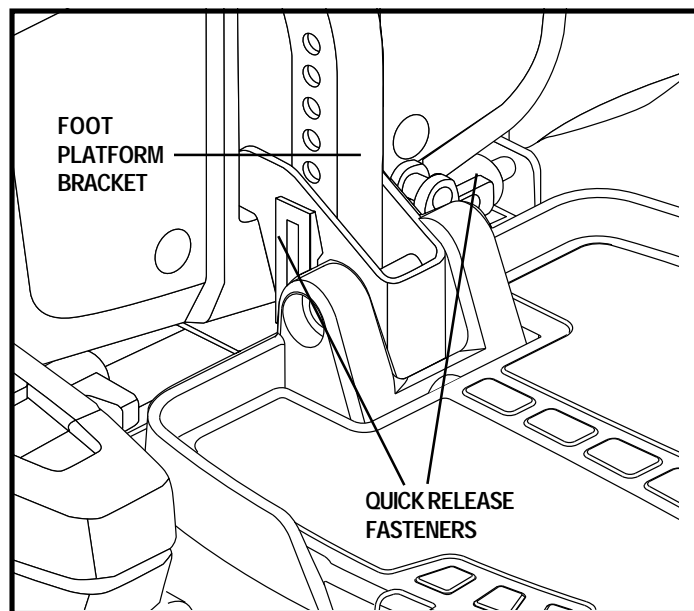
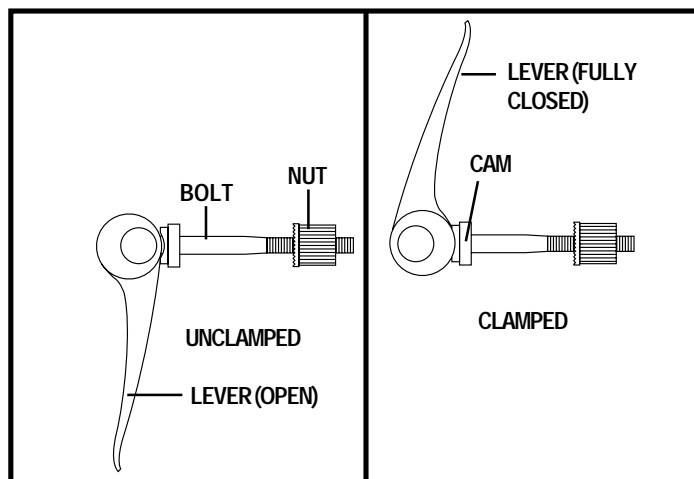

Figure 20. Foot Platform Adjustment
Figure 21. Quick Release Fastener Operation
1. Remove the quick release fasteners from the foot platform bracket. See figure 20.
**Quick Release Fasteners:** The foot platform is attached to the power base with two quick release fasteners. See figure 20. Each quick release fastener consists of a bolt, a lever, and a nut. See figure 21. The lever has a cam on the end that allows it to clamp into place. The quick release fastener has two states: clamped and unclamped. When the lever is open, the quick release fastener is unclamped. When the lever is closed, the quick release fastener is clamped.